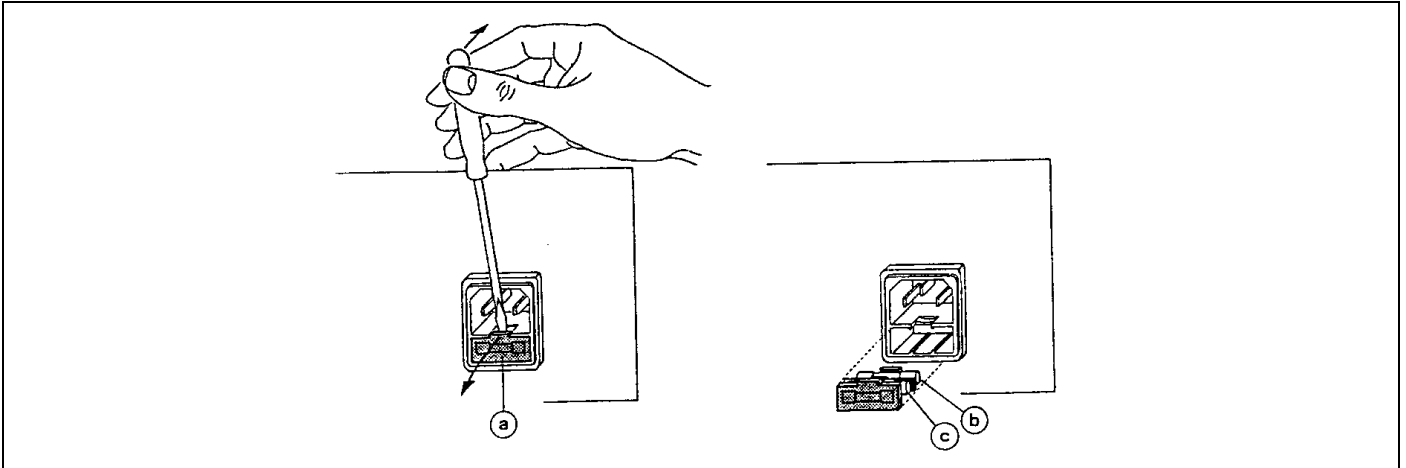

Fig. 10
- Pry the insert ① with socket for fuse ② and spare fuse ③ out of its fitting (Fig. 10).